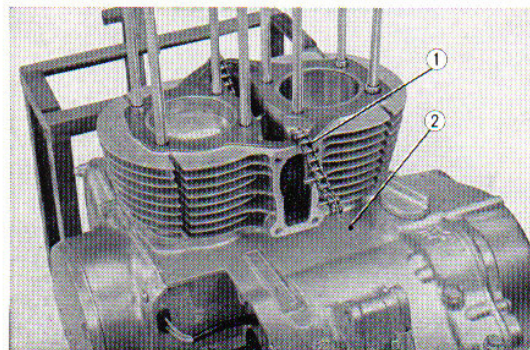

Fig. 3.16 Hook wires on the chain and hook them on the outside of the cylinder
- e. Hook wires on both ends of the chain so that it does not drop into the crankcase. (Refer to Fig. 3.16)